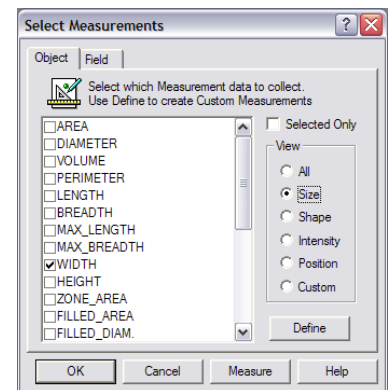

fig.29
8. Click the **Measure** icon in the **Task** toolbar (**fig.29**). Check **Width** to measure the width of the metal coating.